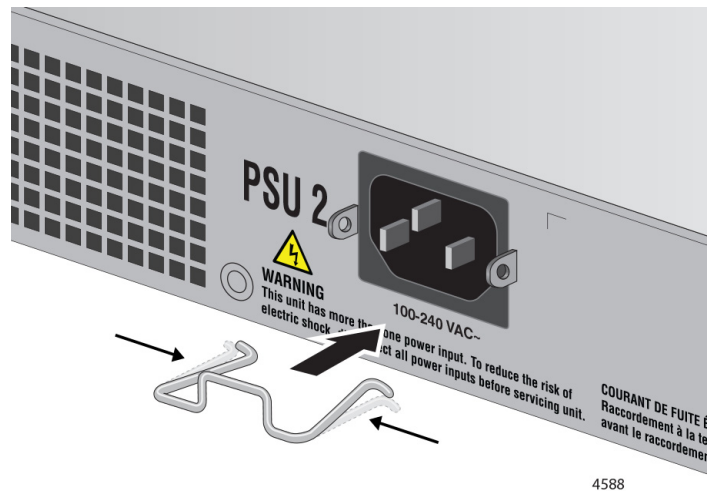

Figure 41. Installing the Power Cord Retaining Clips
1. Install the power cord retaining clips on the AC power connectors on the rear panel of the switch. Refer to Figure 41.